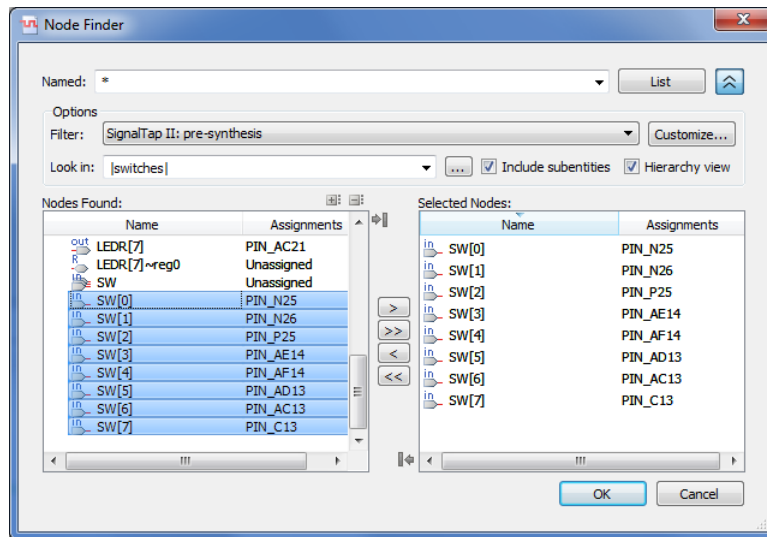

Figure 8. Adding nodes in the Node Finder window on a DE-series board.
3. We now need to add the nodes in the project that we wish to probe. In the Setup tab of the SignalTap II window, double-click in the area labeled Double-click to add nodes, bringing up the Node Finder window, as shown in Figure 8. Click on  to show more search options. For the Filter field, select SignalTap II: pre-synthesis, and for the Look in field select [switches]. Click List. This will now display all the nodes that can be probed in the project. Highlight SW[0] to SW[7], and then click the  button to add the switches to be probed. Then click OK.